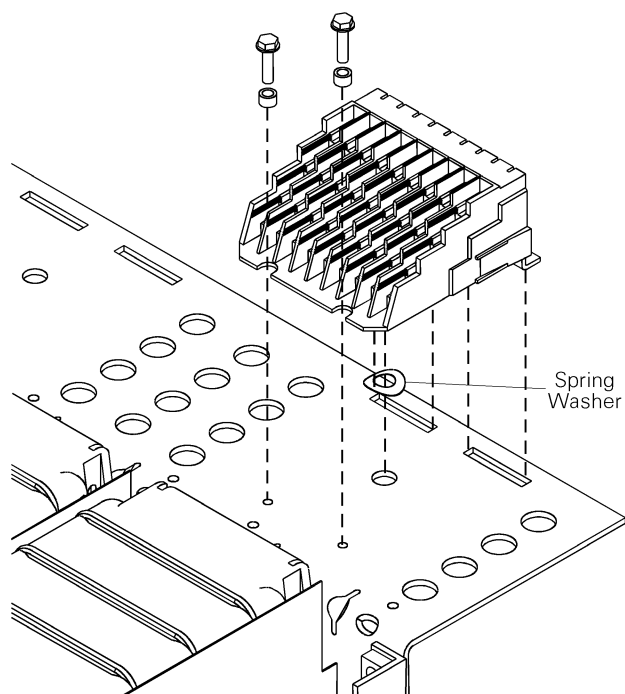

Figure 5-3. Removing or installing the secondary disconnects.
3. Remove the two screws and standoffs securing each secondary disconnect to the mounting plate, taking care to retain the spring washer from the pin on the underside of the disconnect, as illustrated in Figure 5-3. Cut the wire ties securing the secondary disconnect leads to the mounting plate and to the breaker back frame. Slide the secondary disconnects
3. Remove the two screws and standoffs securing each secondary disconnect to the mounting plate, taking care to retain the spring washer from the pin on the underside of the disconnect, as illustrated in Figure 5-3. Cut the wire ties securing the secondary disconnect leads to the mounting plate and to the breaker back frame. Slide the secondary disconnects off the support bracket. Secure the secondary disconnects to the front frame assembly.
8. Place the flexible washer on the molded pin on the bottom of the secondary disconnects, then slide the two feet into the slots on the mounting plate. Secure with the two screws and standoffs, as illustrated in Figure 5-3. Replace the wire bundle into the channel on the top of the frame and secure with wire ties.